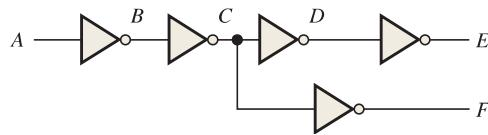

FIGURE 3–77
2. A combination of inverters is shown in Figure 3–77. If a LOW is applied to point *A*, determine the net output at points *E* and *F*.
3. If the waveform in Figure 3–76 is applied to point *A* in Figure 3–77, determine the waveforms at points *B* through *F*.